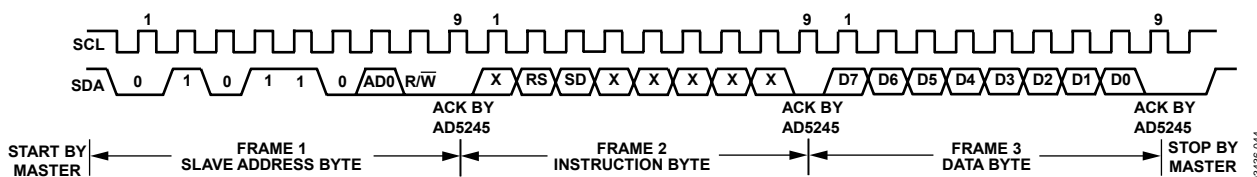
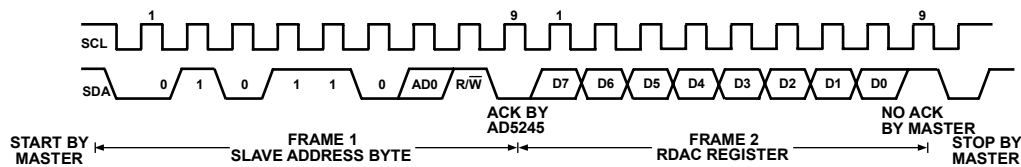

Figure 45. Writing to the RDAC Register
Figure 46. Reading Data from a Previously Selected RDAC Register in Write Mode
1. The master initiates data transfer by establishing a START condition, which is when a high-to-low transition on the SDA line occurs while SCL is high (see Figure 45). The next byte is the slave address byte, which consists of the 7-bit slave address followed by an $\overline{R/W}$ bit (this bit determines whether data is read from or written to the slave device). The AD5245 has one configurable address bit, AD0 (see Table 8).
3. After acknowledging the instruction byte, the last byte in write mode is the data byte. Data is transmitted over the serial bus in sequences of nine clock pulses (eight data bits followed by an acknowledge bit). The transitions on the SDA line must occur during the low period of SCL and remain stable during the high period of SCL (see Figure 45).
4. In read mode, the data byte follows immediately after the acknowledgment of the slave address byte. Data is transmitted over the serial bus in sequences of nine clock pulses (a slight difference with write mode, in which eight data bits are followed by an acknowledge bit). Similarly, the transitions on the SDA line must occur during the low period of SCL and remain stable during the high period of SCL (see Figure 46).
5. After all data bits have been read or written, a STOP condition is established by the master. A STOP condition is defined as a low-to-high transition on the SDA line while SCL is high. In write mode, the master pulls the SDA line high during the 10th clock pulse to establish a STOP condition (see Figure 45). In read mode, the master issues a no acknowledge for the ninth clock pulse (that is, the SDA line remains high). The master then brings the SDA line low before the 10th clock pulse, which goes high to establish a STOP condition (see Figure 46).